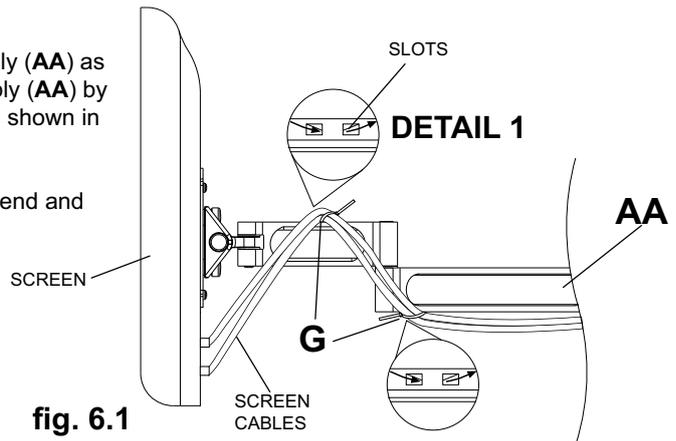

fig. 6.1
- 6** Thread cable ties (**G**) through slots in the arm assembly (**AA**) as shown in detail 1. Secure screen cable to arm assembly (**AA**) by cinching the cable ties (**G**) around the screen cable as shown in fig. 6.1.